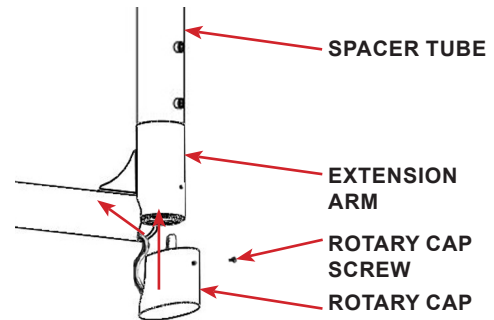

FIGURE 2.27 - Rotary Cap
STEP 5: Feed the wire harness and rotary cap back into the extension arm coupler. Slide forward and secure with phillips screw. Refer to FIGURE 2.27